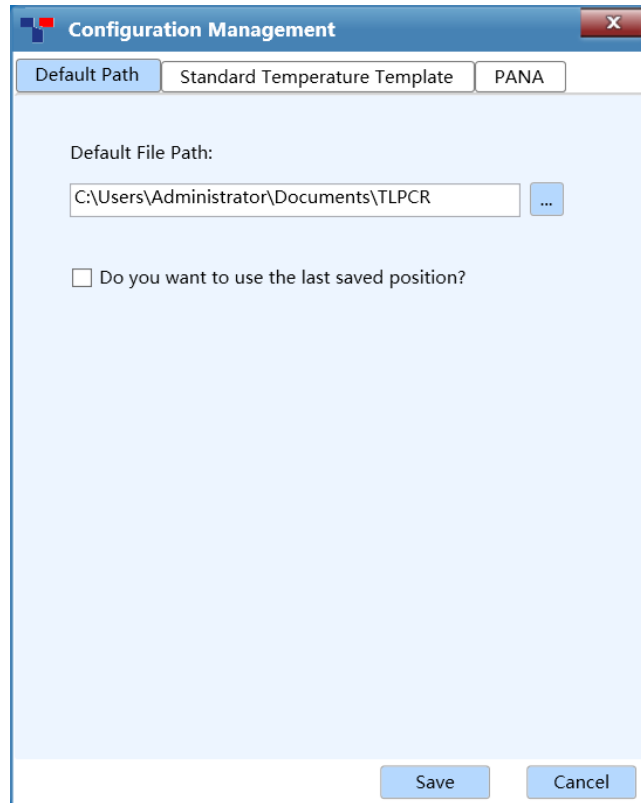

Figure D-3.5a Option submenu - Configuration Management interface - Default Path tab
1. **Configuration Management:** Click **Configuration Management** option in the **Option** submenu and the application software will automatically pop up the configuration management interface, as shown in figure D-3.5a.
- ▶ **Default Path** tab: the configuration management interface displays the **Default Path** tab by default, as shown in figure D-3.5a.